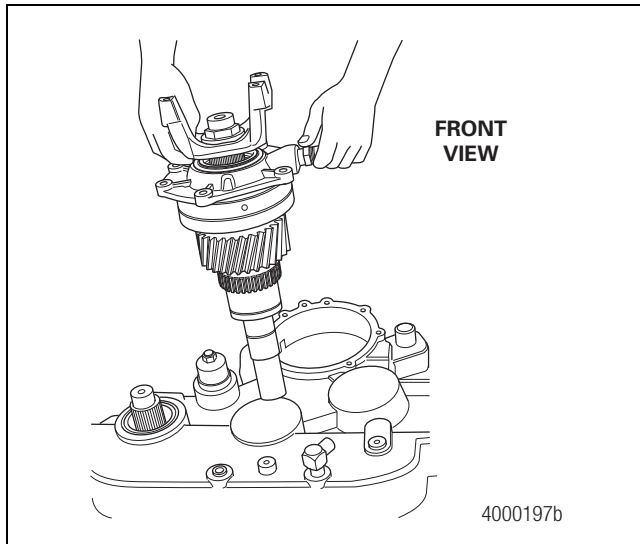

Figure 4.3
- Remove the input bearing cage and input shaft assembly from the transfer case. If necessary, use a yoke puller or an appropriate lifting device. It may be necessary to gently pry the input bearing cage up to dislodge it from the transfer case. Figure 4.3.